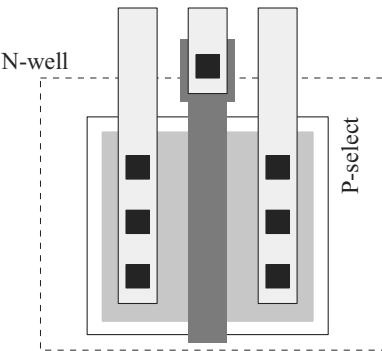

Figure 4.24 Flawed layout of a PMOS device. What is the error?
- 4.12 The layout of a PMOS device is seen in Fig. 4.24 is incorrect. What is the (fatal) problem?